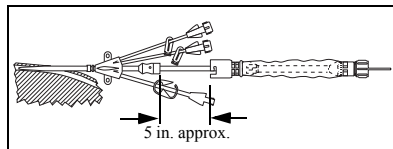

Fig. 10
- Hold access device in place and reposition catheter contamination shield so that distal hub is approximately five inches (12.7 cm) from hemostasis valve (refer to Fig. 10).